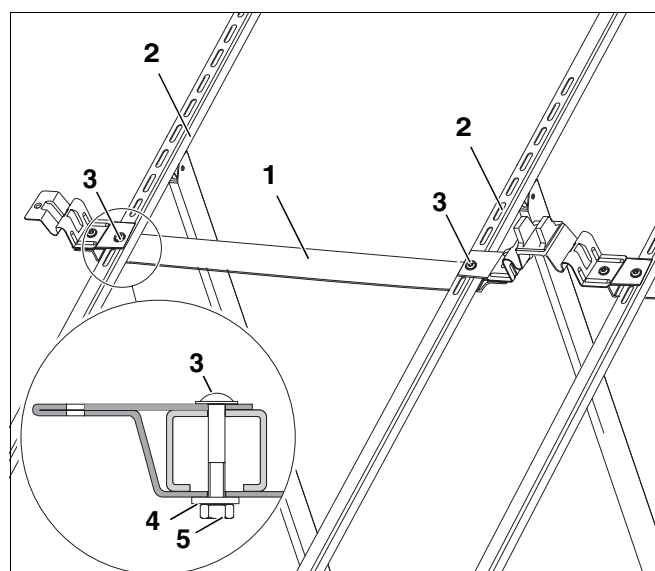

Fig. 26 Installing auxiliary holders
- Slide the auxiliary strap (Fig. 26, **Item 1**) between the collector braces (Fig. 26, **Item 2**).
- Secure the auxiliary strap in the 17th slot from the top (if occupied, in the 16th slot from the top) with pan-head screws M8 × 50 (Fig. 26, **Item 3**) using nuts (Fig. 26, **Item 5**) and washers (Fig. 26, **Item 4**).